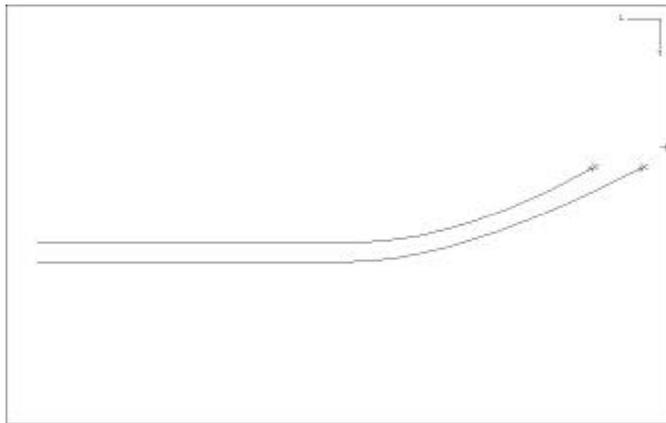

Figure 1-7: *Chine* and Deck Edge curves
3. With the *Chine* curve selected, right-click on the **Move** button. In the **Move Selection** dialogue, for **T** enter **P0.3** and click **OK**. (See Figure 1-7.)